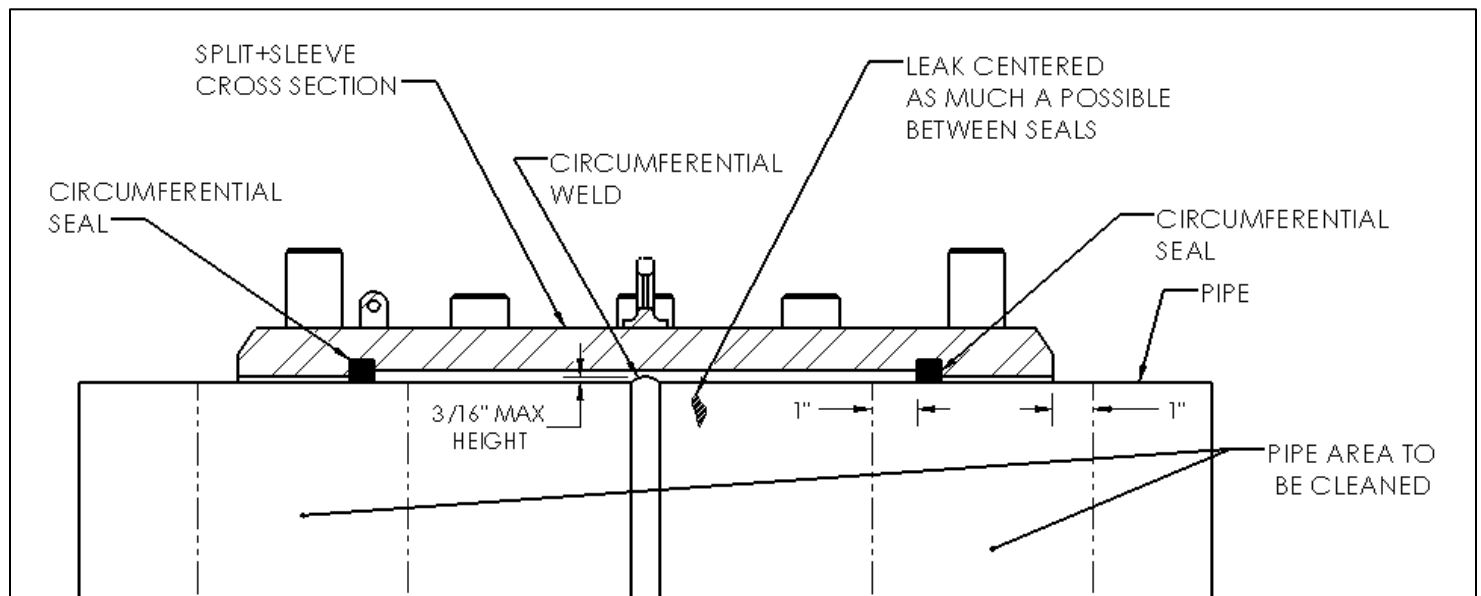

Figure 1
1. Remove all coatings, rust and scale from the pipe surface where the circumferential seals of the PLIDCO Split+Sleeve will contact the pipe (see Figure 1). A near-white finish, as noted in SSPC-SP10 / NACE No.2, is preferred. The cleaner the pipe surface, the more positive the seal.
2. Where the circumferential seals will contact any longitudinal, circumferential, or spiral pipe welds, the welds in this vicinity must be ground flush with the outside diameter of the pipe. The area should extend 1" (25mm) inside of the seals and 1" (25mm) beyond both ends of the fitting (see Figure 1).
3. Circumferential & longitudinal pipe welds between the circumferential seals do not need to be ground flush as long as the weld height does not exceed 3/16 inch (4.7 mm) (see Figure 1).